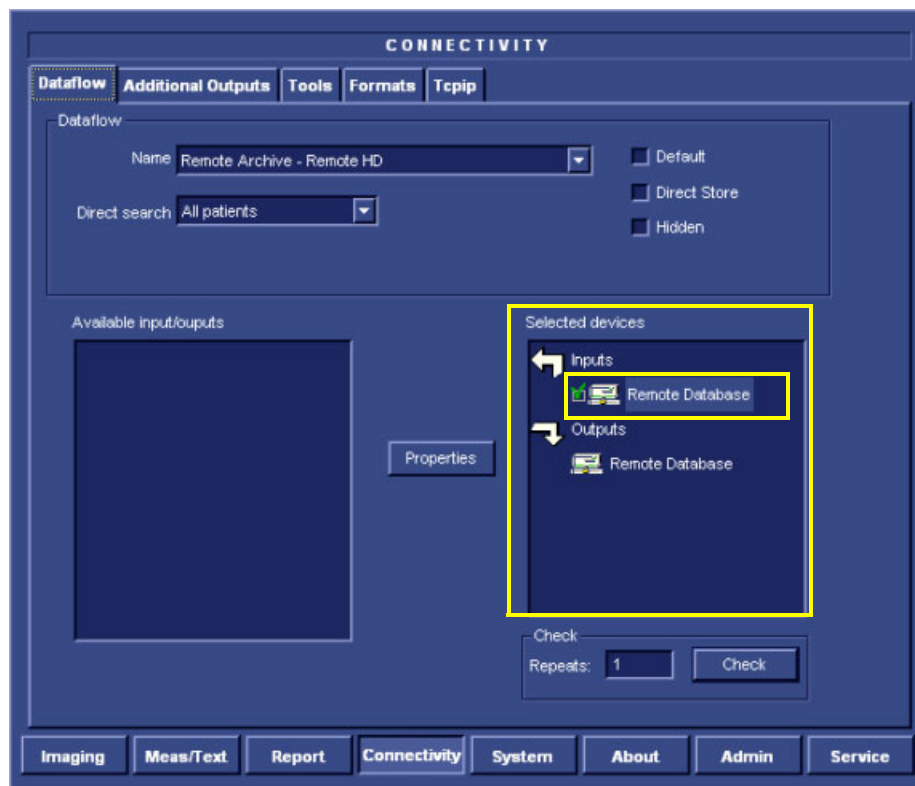

Figure 4-12 Selected Device "Remote Database" showing Successful Check
The system displays the Dataflow screen indicating that the device check has been successfully performed as indicated by the green confirmation tick - see Figure 4-12.
- 7.) Under Selected Devices (Figure 4-12), proceed to the next device (in this example "Remote Database" that is under "Outputs"), click **Check** and proceed as before.